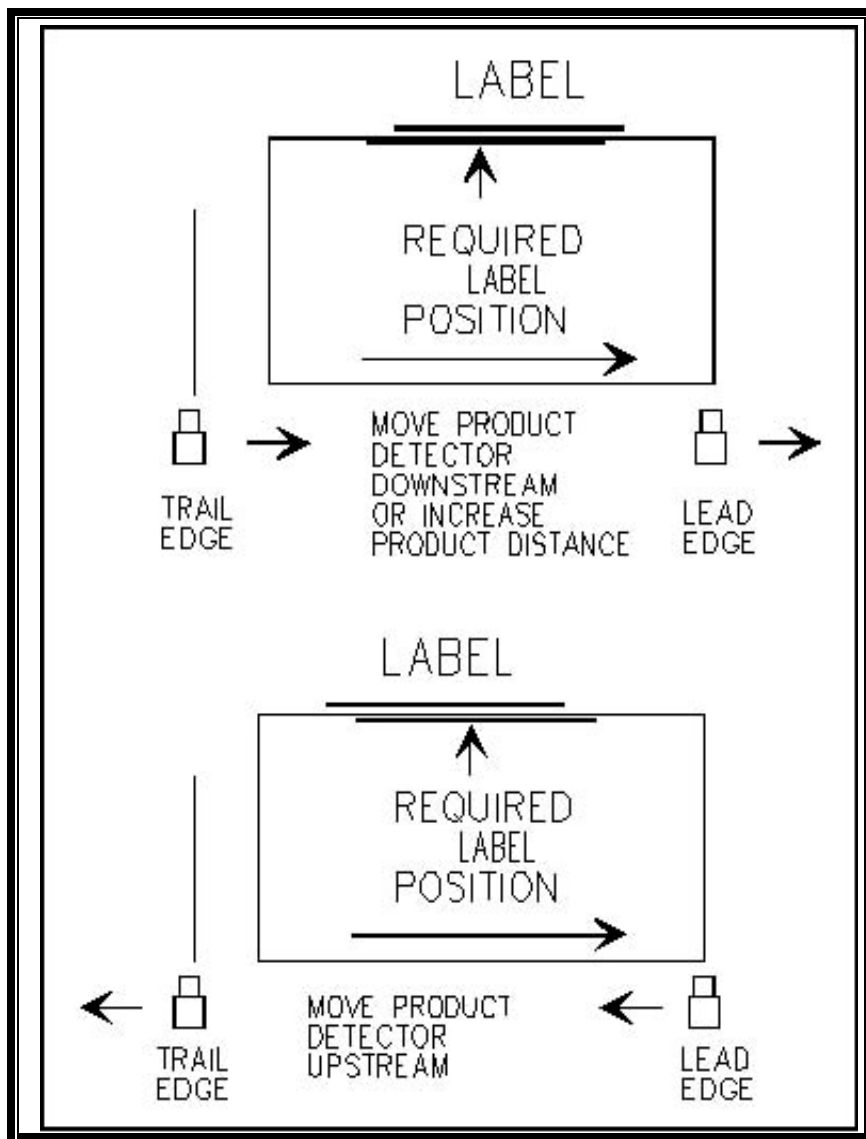

Figure 46 Product Detector Position
4. If the label was applied too close the leading edge of the product (early), either reposition the product detector further downstream or increase the LABEL ON PRODUCT POSITION setting. Refer to Figure 46.
8. If the label was applied too close the leading edge of the product (early), either reposition the product detector further downstream or increase the LABEL ON PRODUCT POSITION setting. Refer to Figure 46.
If the label was applied too far from the leading edge of the product (late), reposition the product detector further upstream. Refer to Figure 46.